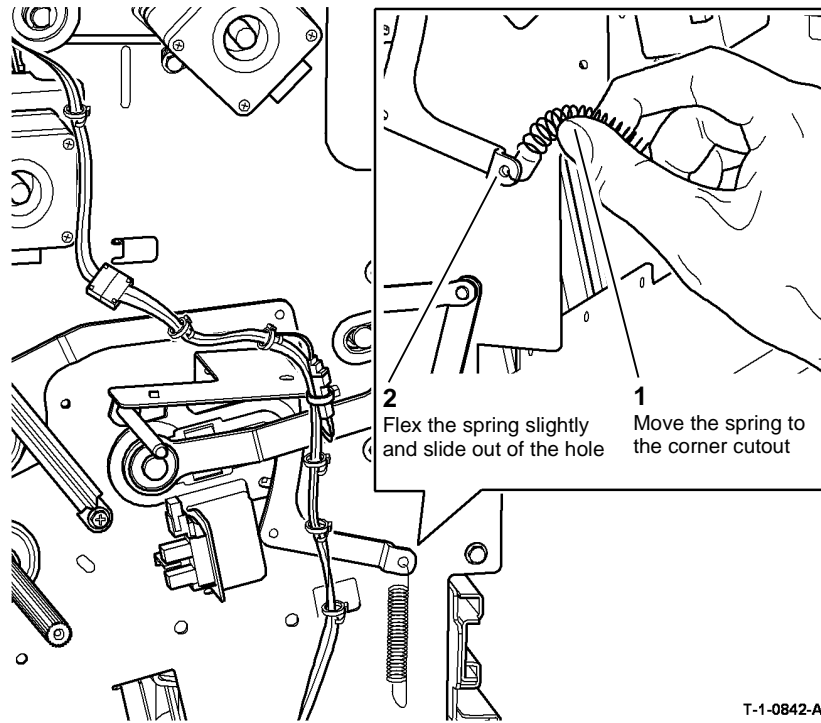

Figure 4 Rear spring removal
12. Figure 4, remove the rear spring.